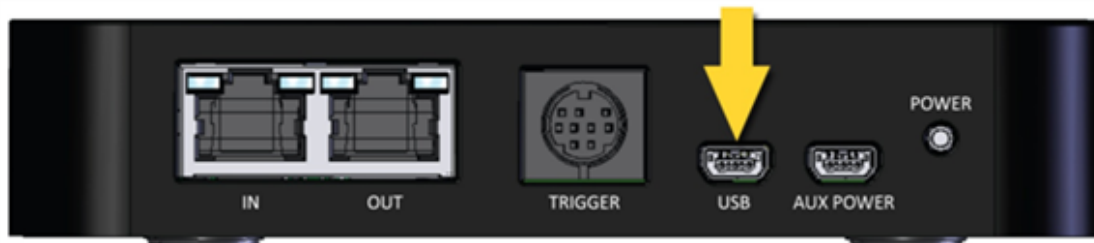

Figure 2.4 - BPA 600 USB Connector
1. Insert the USB cable into the USB port on the Frontline BPA 600 hardware. The Frontline BPA 600 analyzer requires no external power (Figure 2.4).